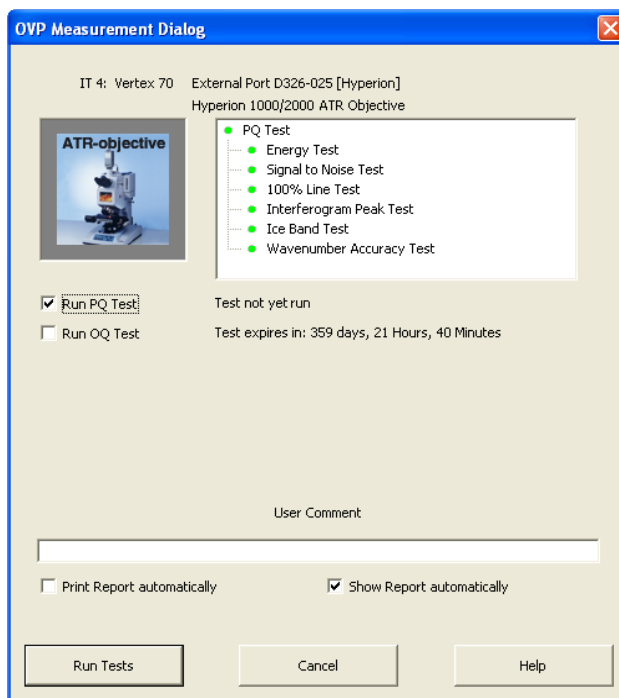

Figure 56: Starting the PQ Test
- As a result, the *OVP Measurement Dialog* opens. See figure 56.
Depending on your settings in the *OVP Measurement Dialog* window (figure 56), the test report is displayed and/or printed automatically immediately after the PQ test.